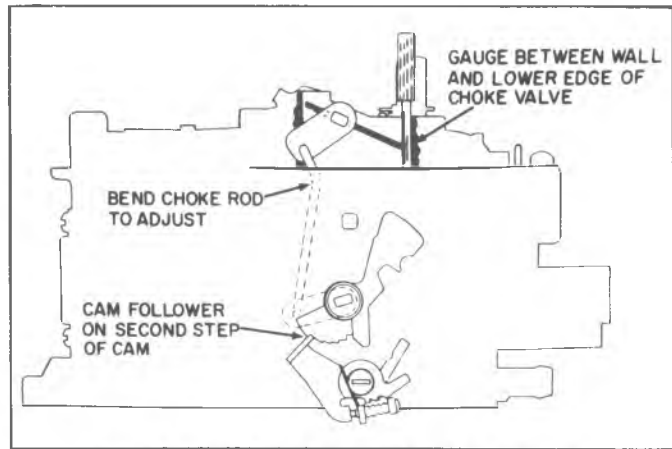

Fig. 6C--Choke Rod (Fast Idle Cam) Adjustment (4MV)
**4MV (Fig. 6C)**
and against the high step, rotate the choke valve toward the closed position by turning the external choke lever counterclockwise. Dimension between the lower edge of choke valve, at choke lever end, should be as specified. Bend choke rod to adjust (Fig. 6C).